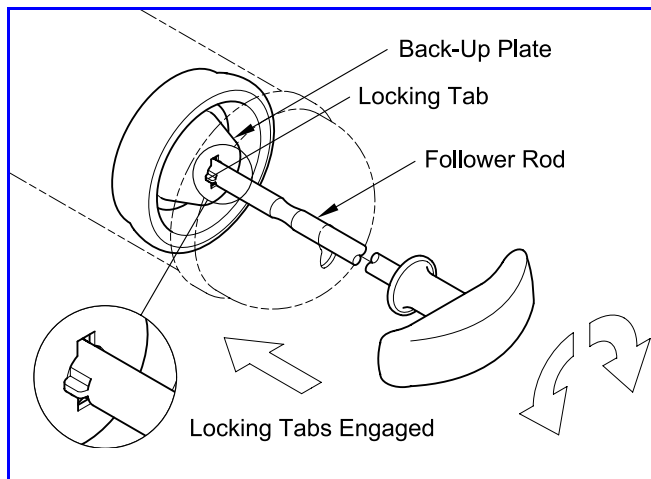

Figure 4 *Follower Rod Engaged with Back-Up Plate*
3. Rotate the Rod and allow the Locking Tabs to contact the Back-Up Plate. See **Figure 4**.
2. Rotate the Rod and allow the Locking Tabs to contact the Back-Up Plate. See **Figure 4**.